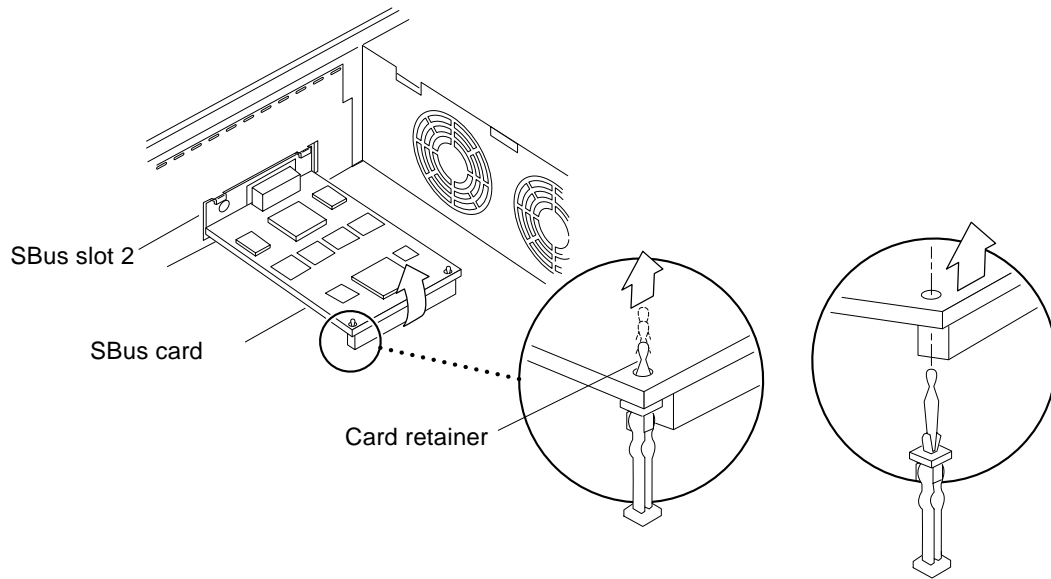

FIGURE 10-12 Removing an SBus Card from Slot 2
- If the SBus card is located in SBus slot 2, pull the card retainer up. See FIGURE 10-12. There is only one card retainer for the SBus slot 2.